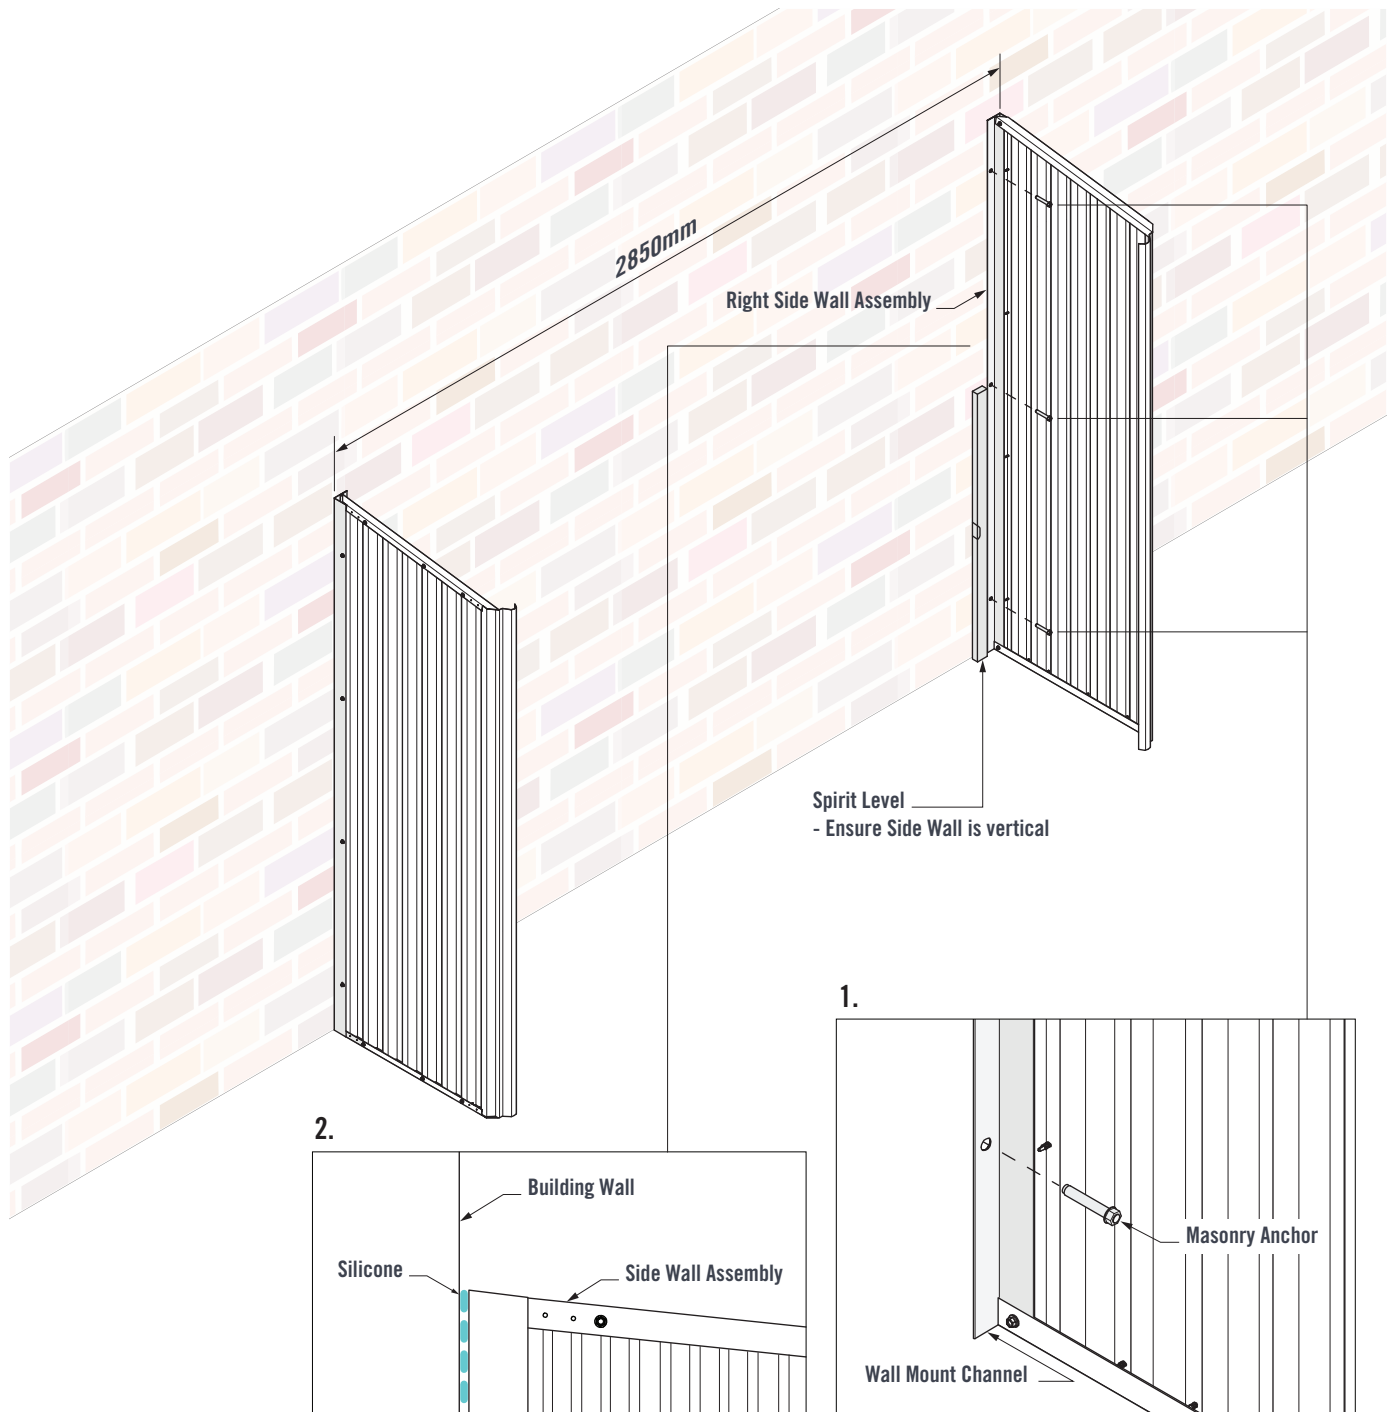

FIGURE 8.1
Position the Right Side Wall Assembly against the building wall. Use a spirit level to ensure the Wall Assembly is vertical and square to the wall. Ensure a spacing of 2850mm between the outer-most faces of the walls (Figure 8.1).
1. Mark and drill three 10mm holes through the pilot holes of the Wall Mount Channel and into the building wall. Loosely install three M10x47 Masonry Anchors (Figure 8.1).
2. Before tightening the Masonry Anchors, apply a bead of silicone between the Wall Mount Channel and building wall to prevent rain entering the shed (Figure 8.1).